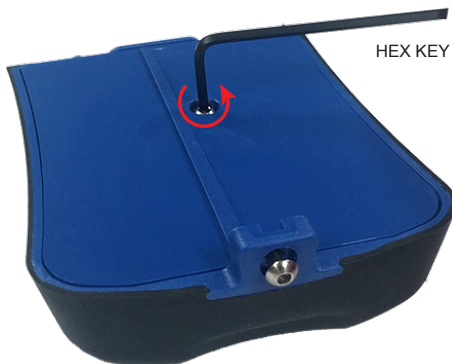

Fig. 4.12 Cover Plate Retaining Screw
1. Unscrew the cover plate retaining screw, using the hex key (supplied), as shown in Fig. 4.12.